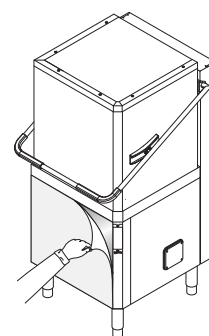

Figure 7 Removing the film
- Carefully remove the protective film from the outer panels without tearing it, to avoid leaving traces of glue (Figure 7).